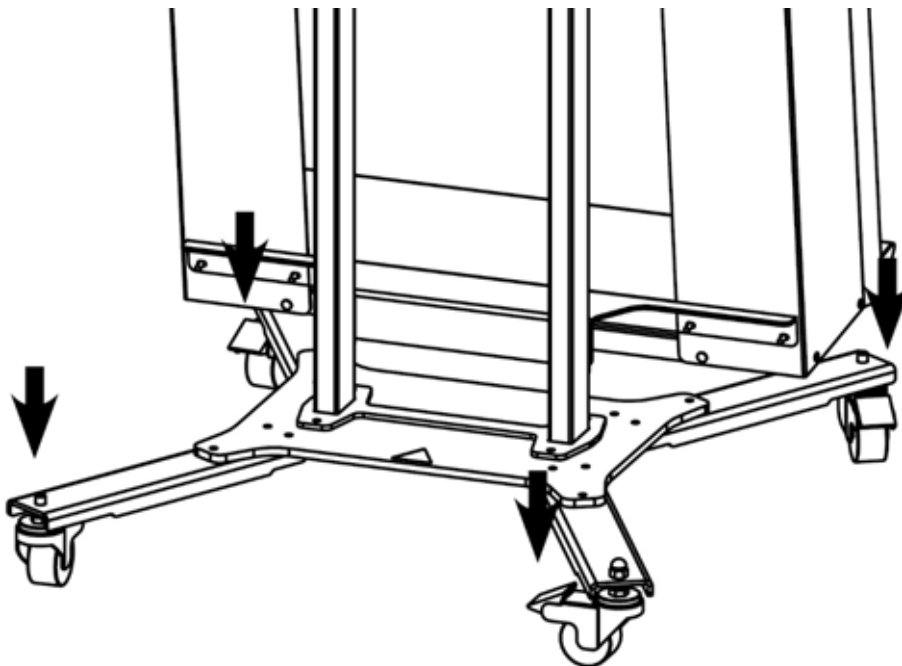

Figure 11 Swivel Casters with Brakes
1. Make sure that the stand is positioned on a level surface and lock the brakes of the four swivel casters (refer to Figure 11).